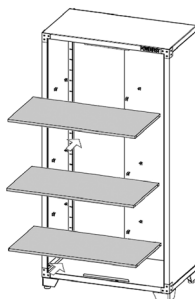
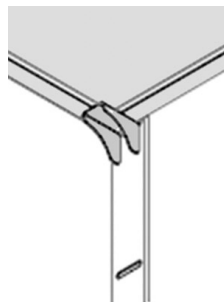

Figure 7.
Figure 8
8. Place each of the three shelves (#15) on a set of supports (Fig. 7). You may need to angle a shelf to have it pass through the front opening. Push down on each shelf corner to confirm the shelf is fully supported. If the shelf wobbles or tilts, a support may be in the wrong slot (Fig. 8).